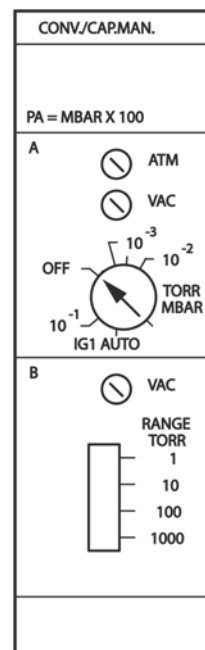
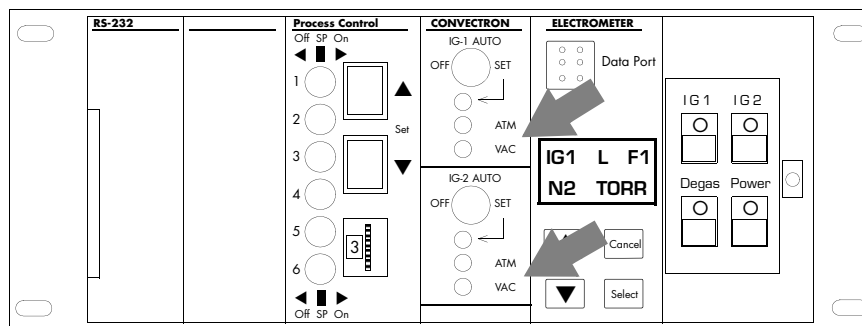

Figure 4-16 Convectron / Capacitance Manometer Module Panel
Figure 4-17 Control Unit Front Panel (with Door Open) Showing Convection Gauge Zero and Atmospheric Adjustments
Only IG1 is turned on with the Convectron/Capacitance Manometer potentiometer from Convectron A. See Figure 4-16.
2. With power on and at vacuum less than 1×10^{-4} Torr for at least 15 minutes, adjust VAC for gauge A (see Figure 4-17) until display A indicates 0.0 0 Torr/mbar or 0.0 0 Pa, not 1.0 -4, 1.0 -2, or 0.0 -0.
5. With the power on, adjust ATM adjustment A (see Figure 4-16 and Figure 4-17) until gauge display A indicates the local atmospheric pressure in the pressure units you have selected.